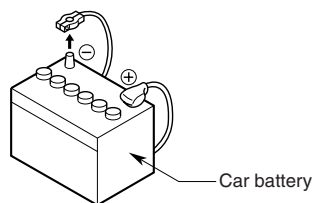

Figure 1
3. Be sure to disconnect the battery “⊖” terminal before starting. This will prevent short circuits during installation. (Figure 1)